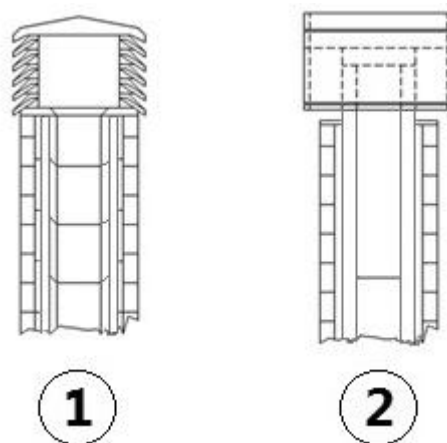

Fig. 5 - Anti-wind chimney pots
- We recommend using an anti-wind chimney pot, see **Fig. 5**.
- External chimney flue entirely made up of insulated stainless steel pipes, i.e. with double wall of minimum $\varnothing 100/120$ mm: all must be firmly attached to the wall. For chimney against wind effects please (see **Fig. 5**).